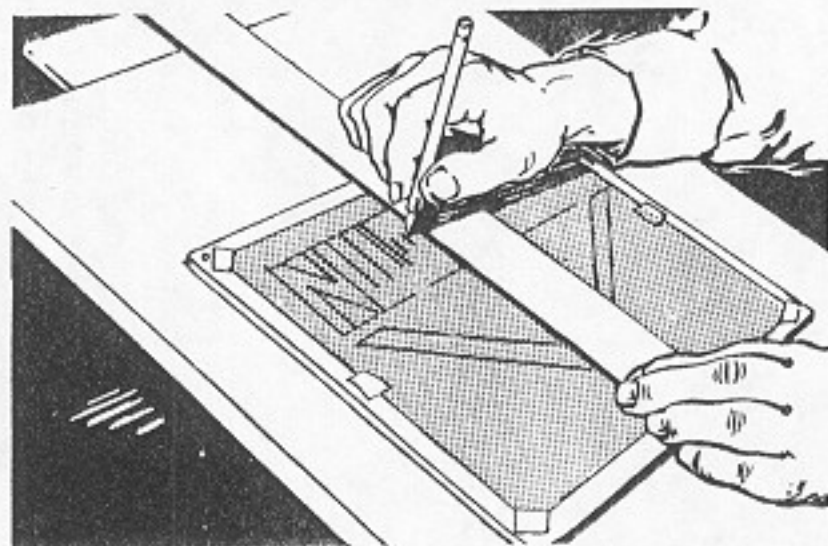

Fig. 120. Carry Straight Cuts Beyond Intersection
6. Using the T-square, make all of the horizontal or vertical cuts, Fig. 120. Angular cuts may be made with the ruler to guide the knife, or with the